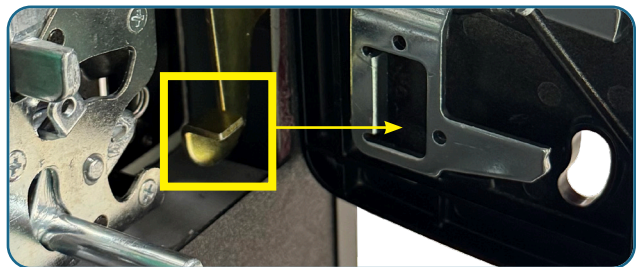

Fig. 6
C. The master cam of the door lock is aligned with the lever actuator arm on the rotary module. (**Fig. 6**)